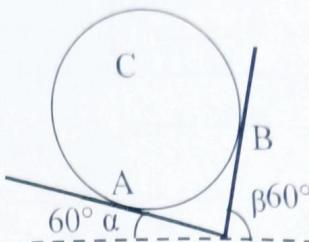

Fig 2.109
- 8) A smooth circular cylinder of weight W and radius R rests in a V shape groove whose sides are inclined at angles α and β to the horizontal as shown in fig 2.109. Find the reactions R_A and R_B at the points of contact.